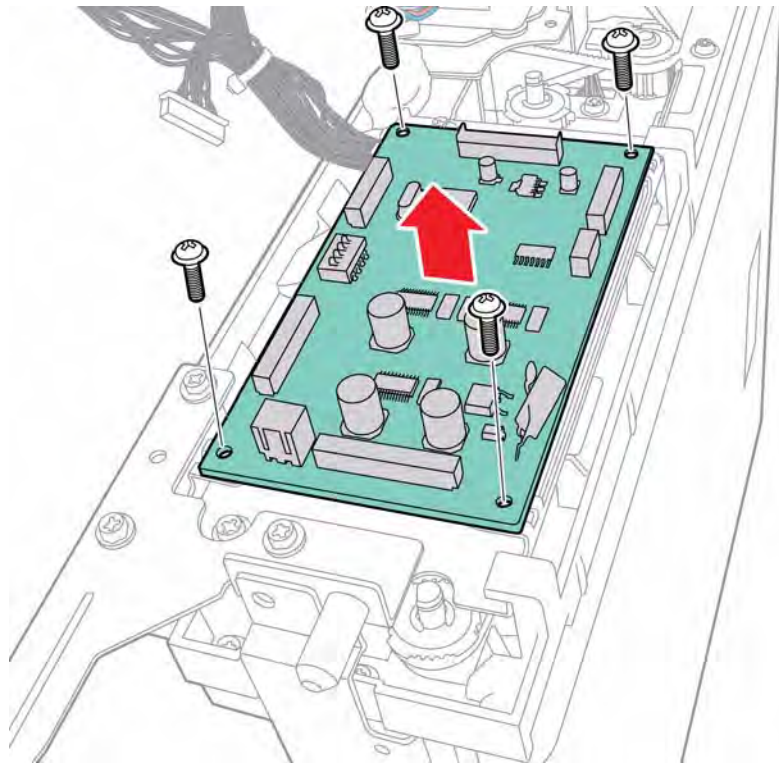

Figure 1 Remove the Control Board
5. Remove 4 (metal) screws that secure the board to the bracket, Figure 1.